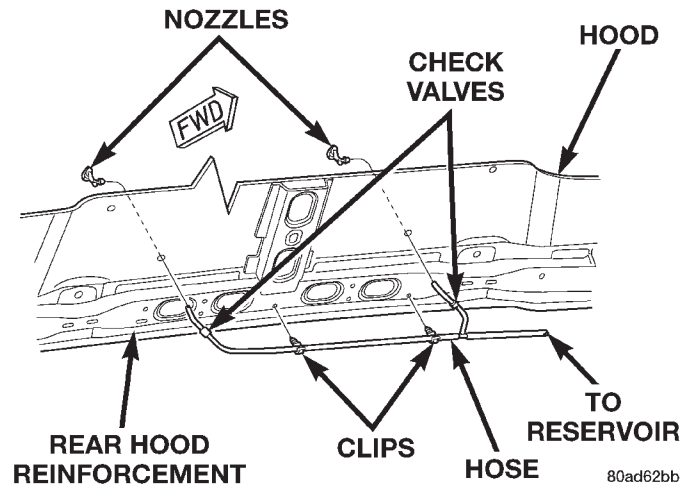

Fig. 18 Front Washer Nozzles Remove/Install
(1) Open and support the hood.
(2) From under the rear of the hood, disconnect the washer supply hose from the barbed nipple of the washer nozzle (Fig. 18).
(3) From under the rear of the hood, gently squeeze the nozzle retainers and push the nozzle out through the top of the hood panel.
(4) Reverse the removal procedures to install. See Washer Nozzles and Plumbing in this group for the nozzle adjustment procedures.